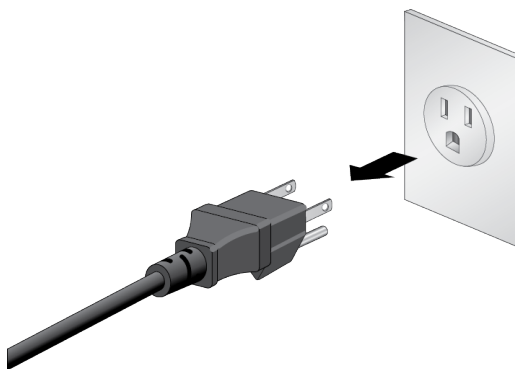

Figure 54. Powering Off the Switch
1. Power off the switch by disconnecting its AC power cords from the AC power sources. Refer to Figure 54.